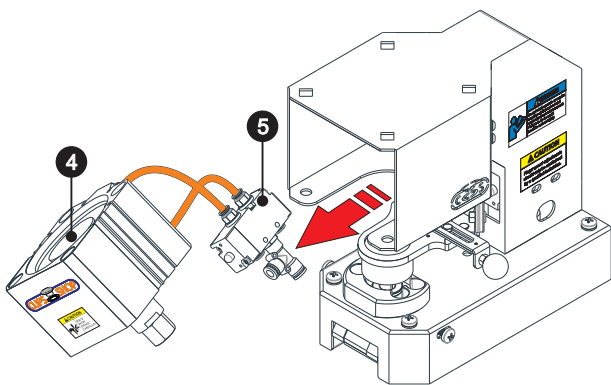

fig. 85
Remove the cylinder④ with the hose connected valve⑤, by gently pulling them out of the machine body in the arrow direction as shown in the (fig.85).